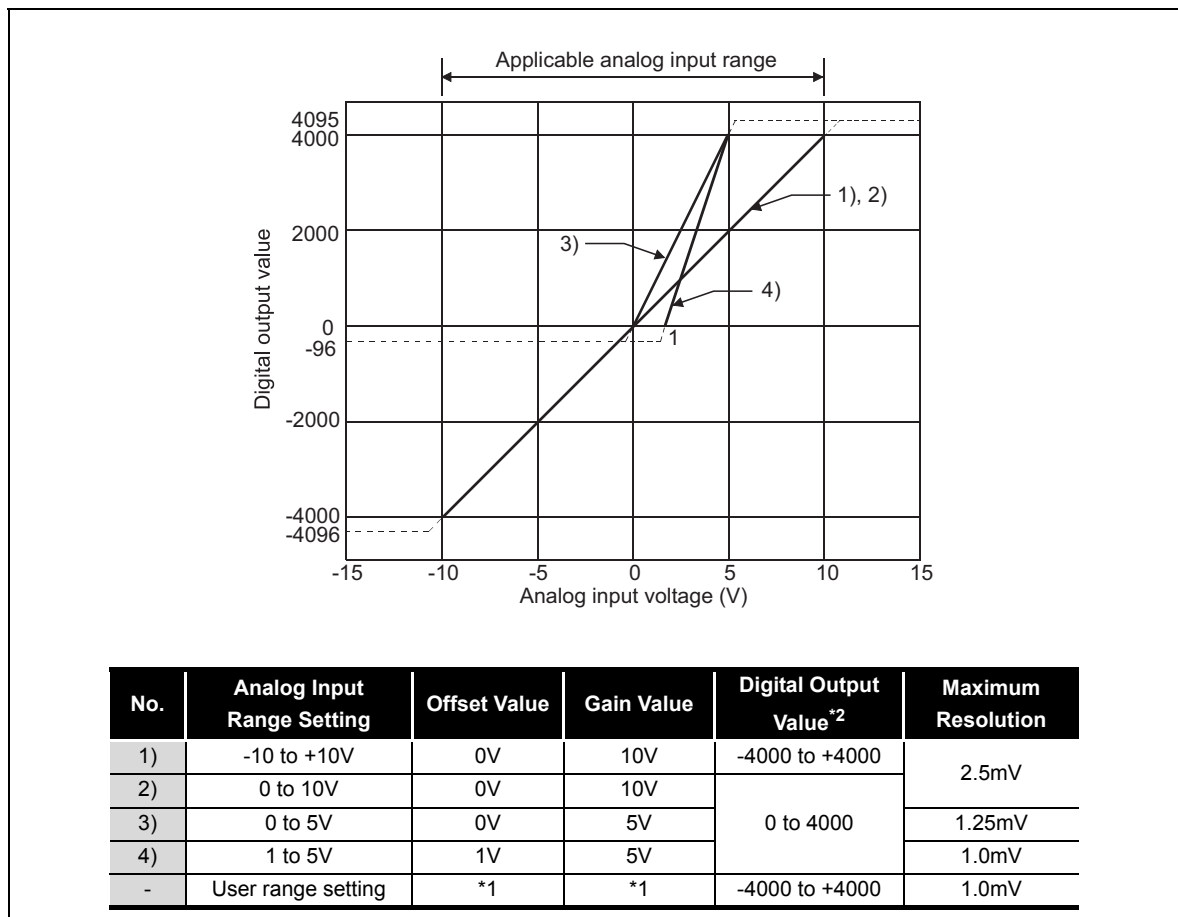

Figure 3.1 Input characteristics of ST1AD2-V
- (1) Within the analog input and digital output scopes of each input range, the maximum resolution and accuracy are within the performance specification range. Outside those scopes, however, they may not fall within the performance specification range. (Avoid using the dotted line part in Figure 3.1.)
- (2) Do not input more than $\pm 15V$. The element may be damaged.
- (3) Set the offset/gain values for the user setting range *1 within a range in which the following conditions are satisfied.
- (2) Do not input more than ± 30 mA. The element may be damaged.